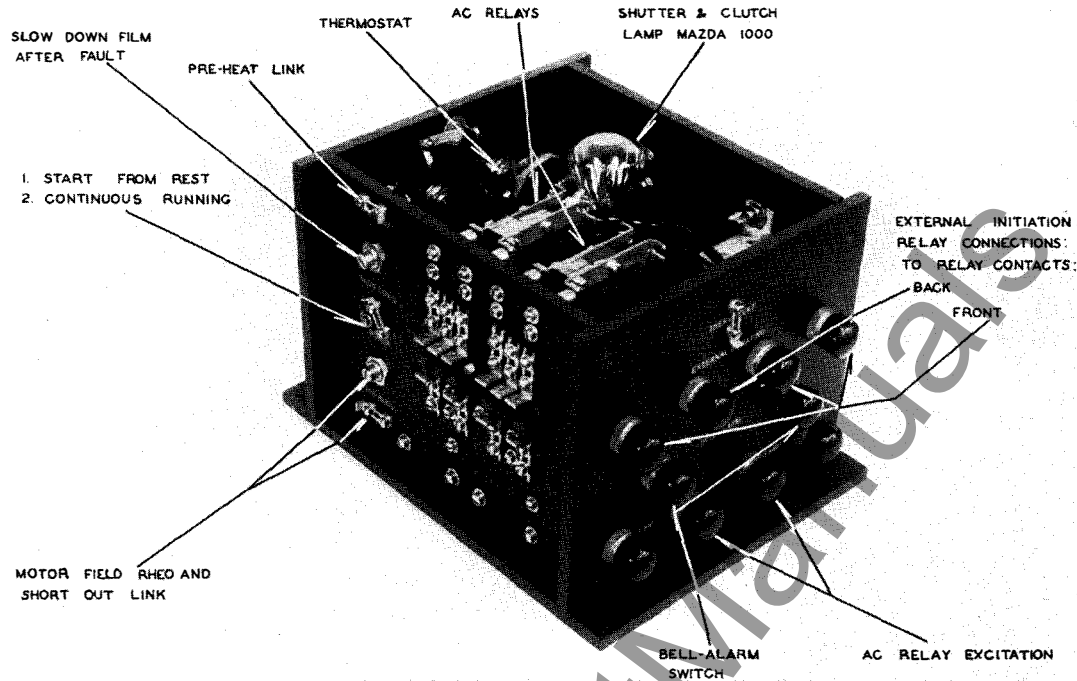

FIG. 41—SAME AS FIG. NO. 40 EXCEPT VIEWING FROM THE OPPOSITE SIDE AT THE A-C. AND RELAY PANELS.
Fig. 41 shows the a-c. side of the automatic panel. The four terminals engraved, "EXTERNAL INITIATING" over them and numbered 1, 2, 3, and 4, are connected to the closing contacts of the internal initiating relays. These terminals are brought out to operate the oscillograph from externally mounted relays of any desired number which must have their closing contacts connected in parallel and to these four terminals. When closed, the four terminals are shorted together by the relay. A link may be placed across posts 1 and 2 by using only three closing contacts on the external relays provided only—6 volts are used on the motor armature, as described below. To operate the thermostat properly the link engraved, "THERMOSTAT" must be opened and a series connection made through a contact on every external relay. Two terminal posts for "bell alarm" are brought out in a position just below the external initiating terminals. These
(F). To this side of the automatic panel are mounted the pre-heat resistor, and the magnetic shutter, clutch, and double filament lamp, as may be seen in Figs. 41 and 40. The pre-heat resistor is connected in series with the photographic lamp to limit the voltage to the lamp so as to increase its life but keeps the lamp heated to such a value so that it can come to a photographic brilliancy in the minimum time required to comply with the initiating speed of the rest of the apparatus.